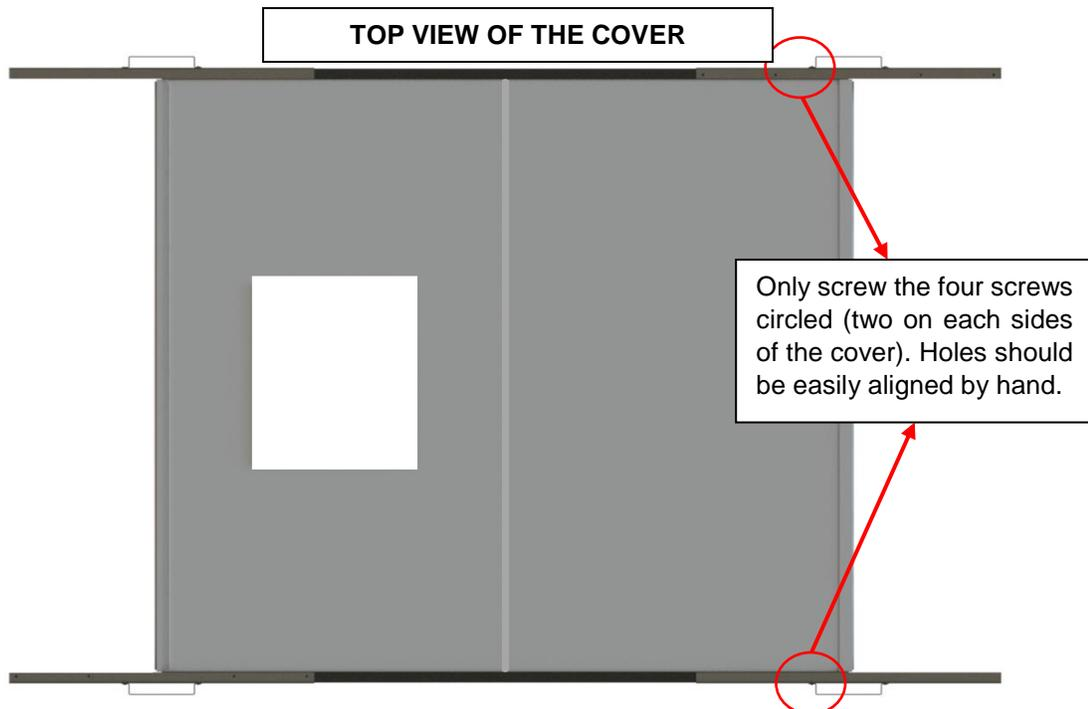

Figure 58
**Note:** For some spa, optional dual side brackets are needed to mount the cover to the posts. The installation of these brackets is done the same way as for the post-mount brackets described at step 13 (Figure 58).